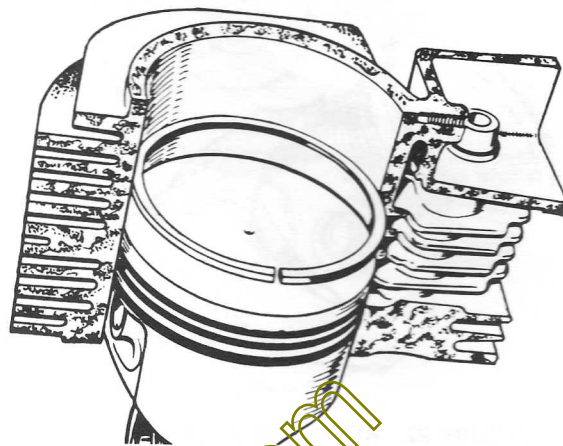

FIGURE 26. POSITIONING OF PISTON RING AND MEASURING OF END GAP
- a. Install the piston ring in the cylinder bore. Invert the piston and push the ring to the end of ring travel, about halfway into the bore, which trues the ring end gap. Check the gap with a feeler gauge as shown in Figure 26.